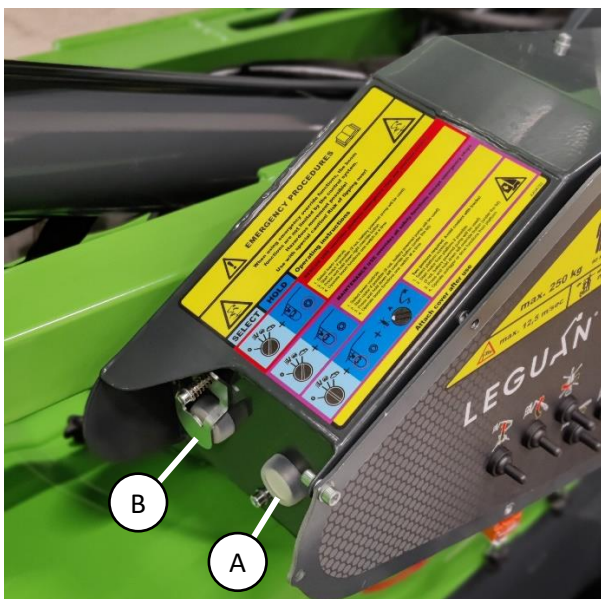

Figure 13. Override buttons
For possible emergency situations the access platform is equipped with load control override button (figure 13 (A)). The button must only be used in **extreme emergency situations**, for example the operator has lost consciousness in the platform and the must be lowered for their safety. The platform must be moved to directions that decrease the overturning moment (towards the center of the machine). **The manufacturer is not responsible for misuse of the function!** The override button is located on the left-hand side of the lower control panel and is only operational when lower control is selected as the active control position.
3. Press and hold the override button closer to the operator (figure 13 (A)).
For possible emergency situations the access platform is equipped with a safety function override button (figure 13 (B)). It enables the operation of drive, outrigger and boom functions in fault situations. The function can for example used in a situation where a sensor has broken, and the machine must be moved to a safe location to be repaired. **Use extreme caution and only in emergency situation!**
- 3. Press and hold the override button under the lid further from the operator (figure 13 (B)).